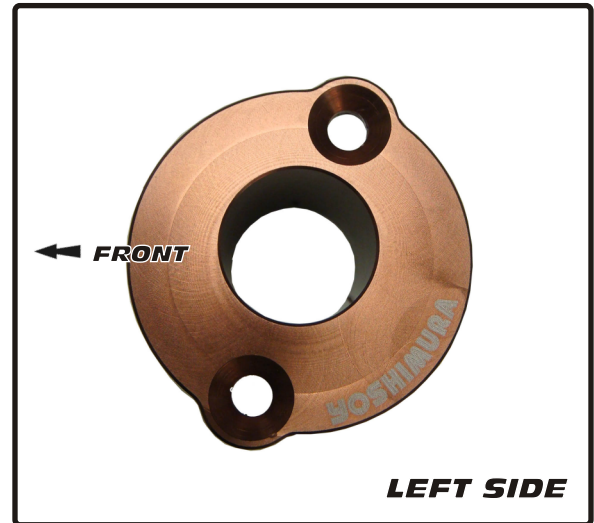

Fig. 4
13. Install left side Yoshimura pivot shaft plate using stock bolts (Fig. 4). (Note: Make sure that the Yoshimura logo is located on the bottom quarter and the eccentric circle is located towards the top.)